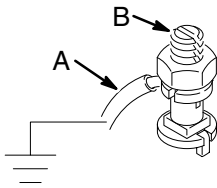

Fig. 1
To ground the agitator, connect one end of the ground wire (A) to the ground connector (B) on the agitator. See Fig. 1. Connect the other end of the ground wire to a true earth ground.